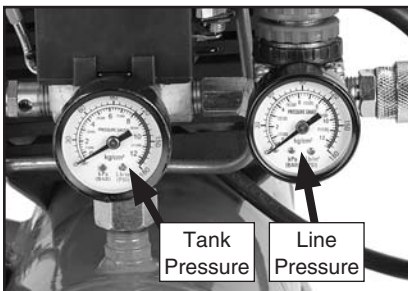

Figure 6. Pressure gauges.
7. Check the tank pressure gauge (**Figure 6**) to see that the tank pressure climbs to approximately 105-110 PSI (around 7.5 bar), then automatically turns **OFF**.
The tank pressure is displayed on the left pressure gauge, and the air to be delivered to the tool (line pressure) is displayed on the right pressure gauge, shown in **Figure 6**.